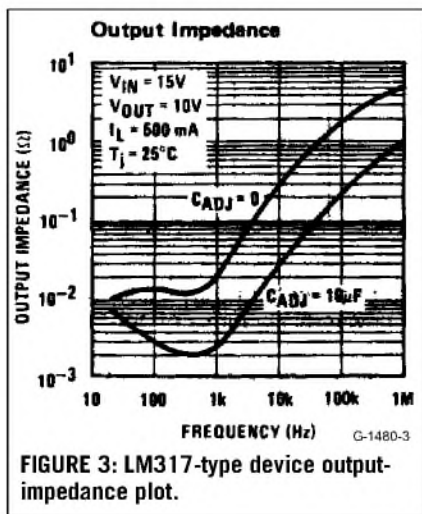

FIGURE 3: LM317-type device output-impedance plot.
*Figure 3* shows a typical output impedance of an LM317-type device. My aim was to design a circuit with fundamentally different parameters, namely, a stable output impedance across the whole audio band with room to spare, and high attenuation of input noise and general grunge on the rails. Looking at these items in more detail, I'll start with the rectifier and work towards the regulated output voltage.